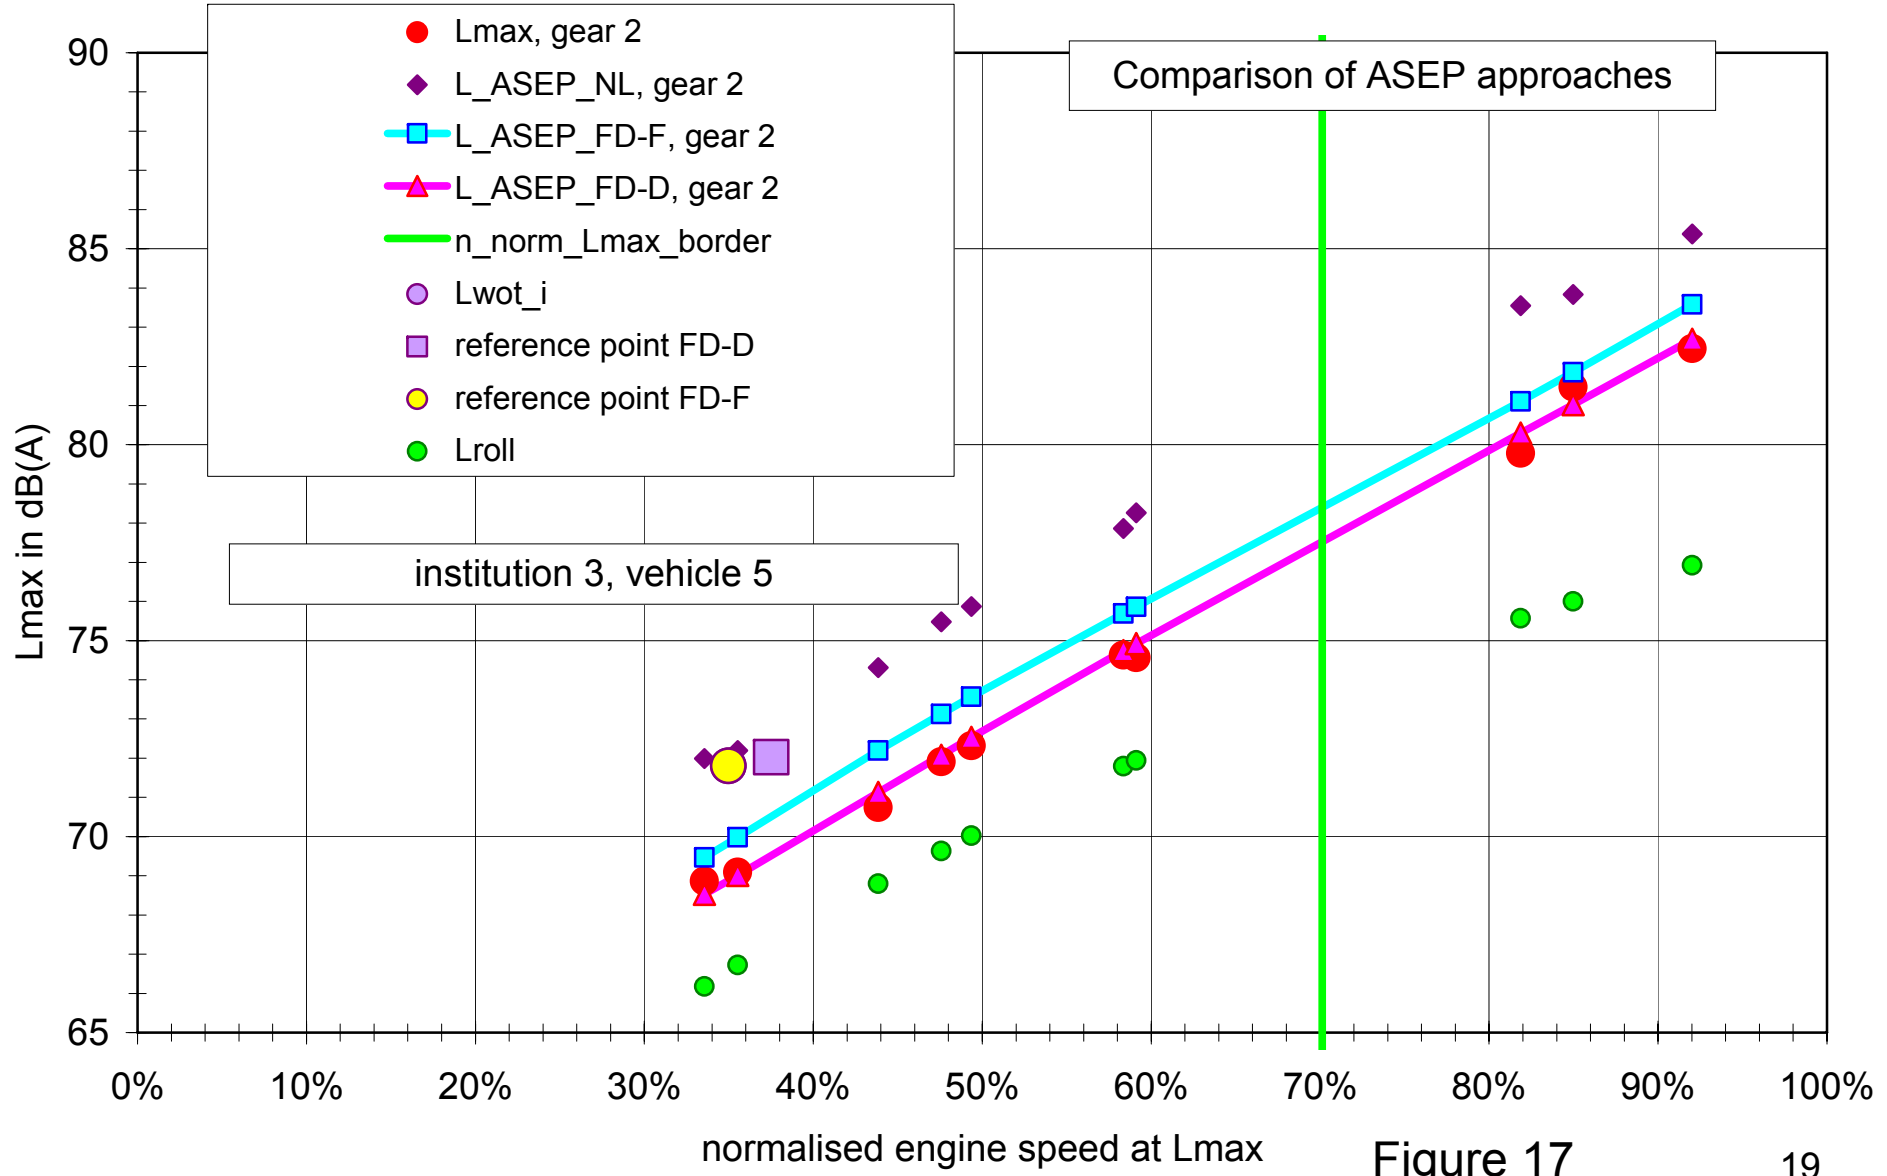

Figure 17
- Figure 17 shows the results for the 2. gear, figure 18 for the 3. gear.